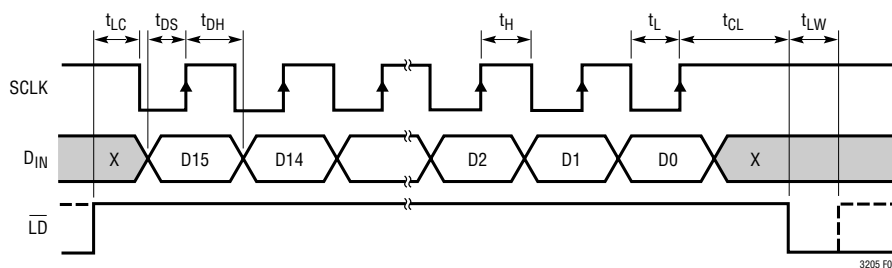

**Figure 3. Serial Port Timing Diagram**
**SCLK (Pin 8):** Clock Input for the 16-Bit Serial Port (see Figure 3). The logic level for SCLK is referenced to DVCC.
**LD (Pin 9):** Load Input for the 16-Bit Serial Port. Command data is loaded into the command latch on the falling edge of LD (see Figure 3). The logic level for LD is referenced to DVCC.
The microcontroller compatible serial port provides all of the command and control inputs for the LTC3205. Data on the  $D_{IN}$  input is loaded on the rising edge of SCLK. D15 is loaded first and D0 last. Once all bits have been clocked into the shift register, the command data is loaded into the command register by bringing  $\overline{LD}$  low. At this time, the command register is latched and the LTC3205 will begin to act upon the new command set. The serial port uses static logic registers so there is no minimum speed at which it can be operated. Figure 3 shows the operation of the serial port.